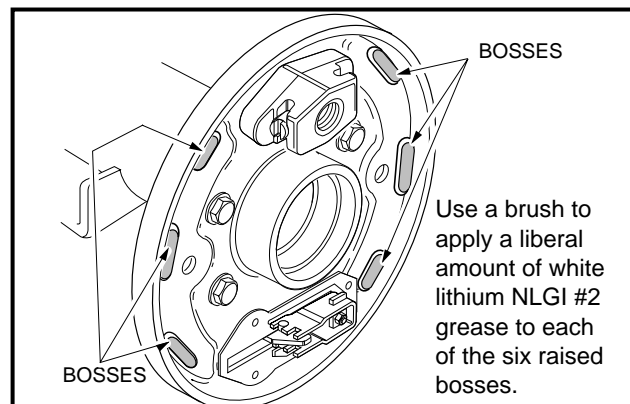

Figure 6-19 Grease Raised Bosses
4. Use a small brush to carefully apply a liberal amount of white lithium NLGI #2 (Dow Corning BR2-Plus or equivalent) on each of the six raised bosses on brake backing plate (**Figure 6-19, Page 6-8**). See preceding **WARNING**.